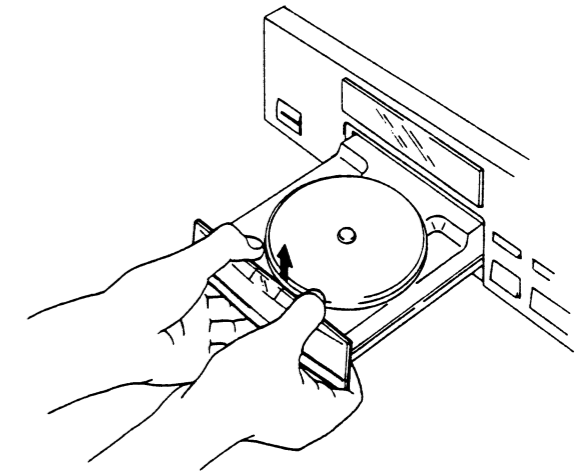

Fig. 1
- Use nippers or other tool to cut the two sections marked (A) in figure 1. Then remove the spacer.
- While supporting the spindle motor shaft with the stopper, put spacer on top of the motor base (angled so it doesn't touch section (B)), and stick the disc table on top (takes about 9kg pressure). Take off the spacer.
Hold the tray panel with your hands as the figure shown right, and grasp the tray with your thumbs and then lift the tray panel up while pulling it toward you with the other fingers.(Figs . 1 and 2)